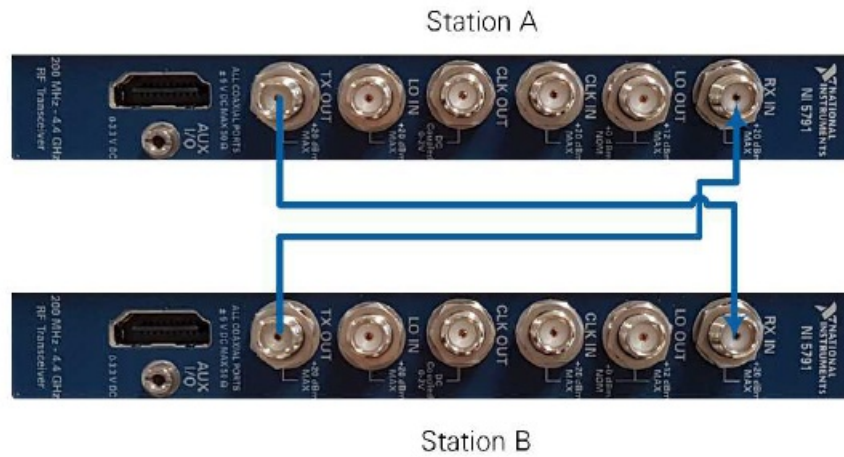

Figure 3 FlexRIO Adapter Module Cabled Connection
2. Complete the following steps to create RF connections as shown in Figure 3.